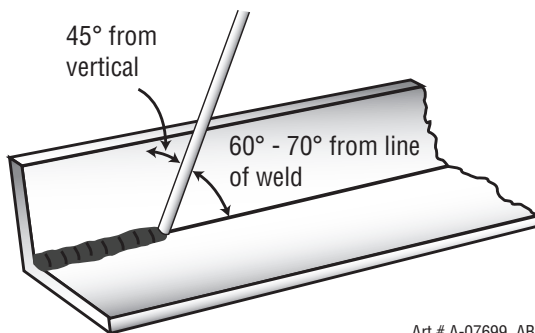
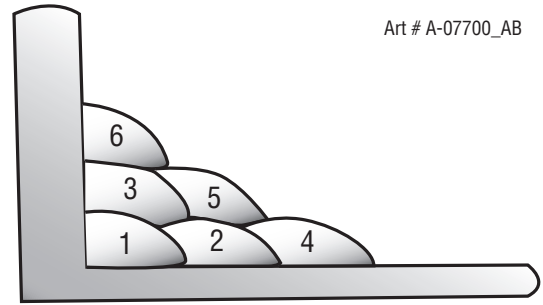

Figure 4-23: Electrode Position for HV Fillet Weld
Figure 4-24: Multi-runs in HV Fillet Weld
A piece of angle iron is a suitable specimen with which to begin, or two lengths of strip steel may be tacked together at right angles. Using a 1/8" (3.2 mm) E7014 electrode at 100 amps, position angle iron with one leg horizontal and the other vertical. This is known as a horizontal-vertical (HV) fillet. Strike the arc and immediately bring the electrode to a position perpendicular to the line of the fillet and about 45° from the vertical. Some electrodes require to be sloped about 20° away from the perpendicular position to prevent slag from running ahead of the weld. Refer to Figure 4-23. Do not attempt to build up much larger than 1/4" (6.4 mm) width with a 1/8" (3.2 mm) electrode, otherwise the weld metal tends to sag towards the base, and undercut forms on the vertical leg. Multi-runs can be made as shown in Figure 4-24. Weaving in HV fillet welds is undesirable.